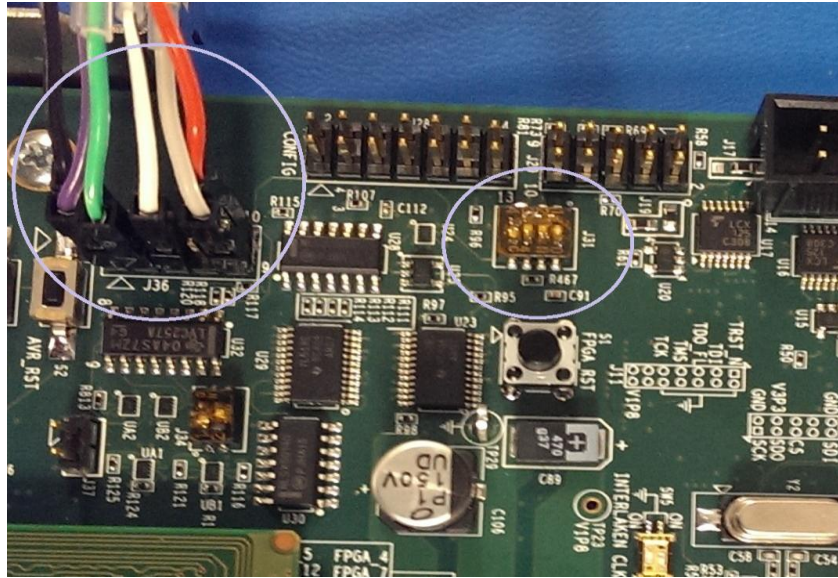

Figure 7: Achronix Development Board Configuration for Writing to Flash
2. Connect the Cheetah adapter to J36 using the split cable (See Figure 7 below):